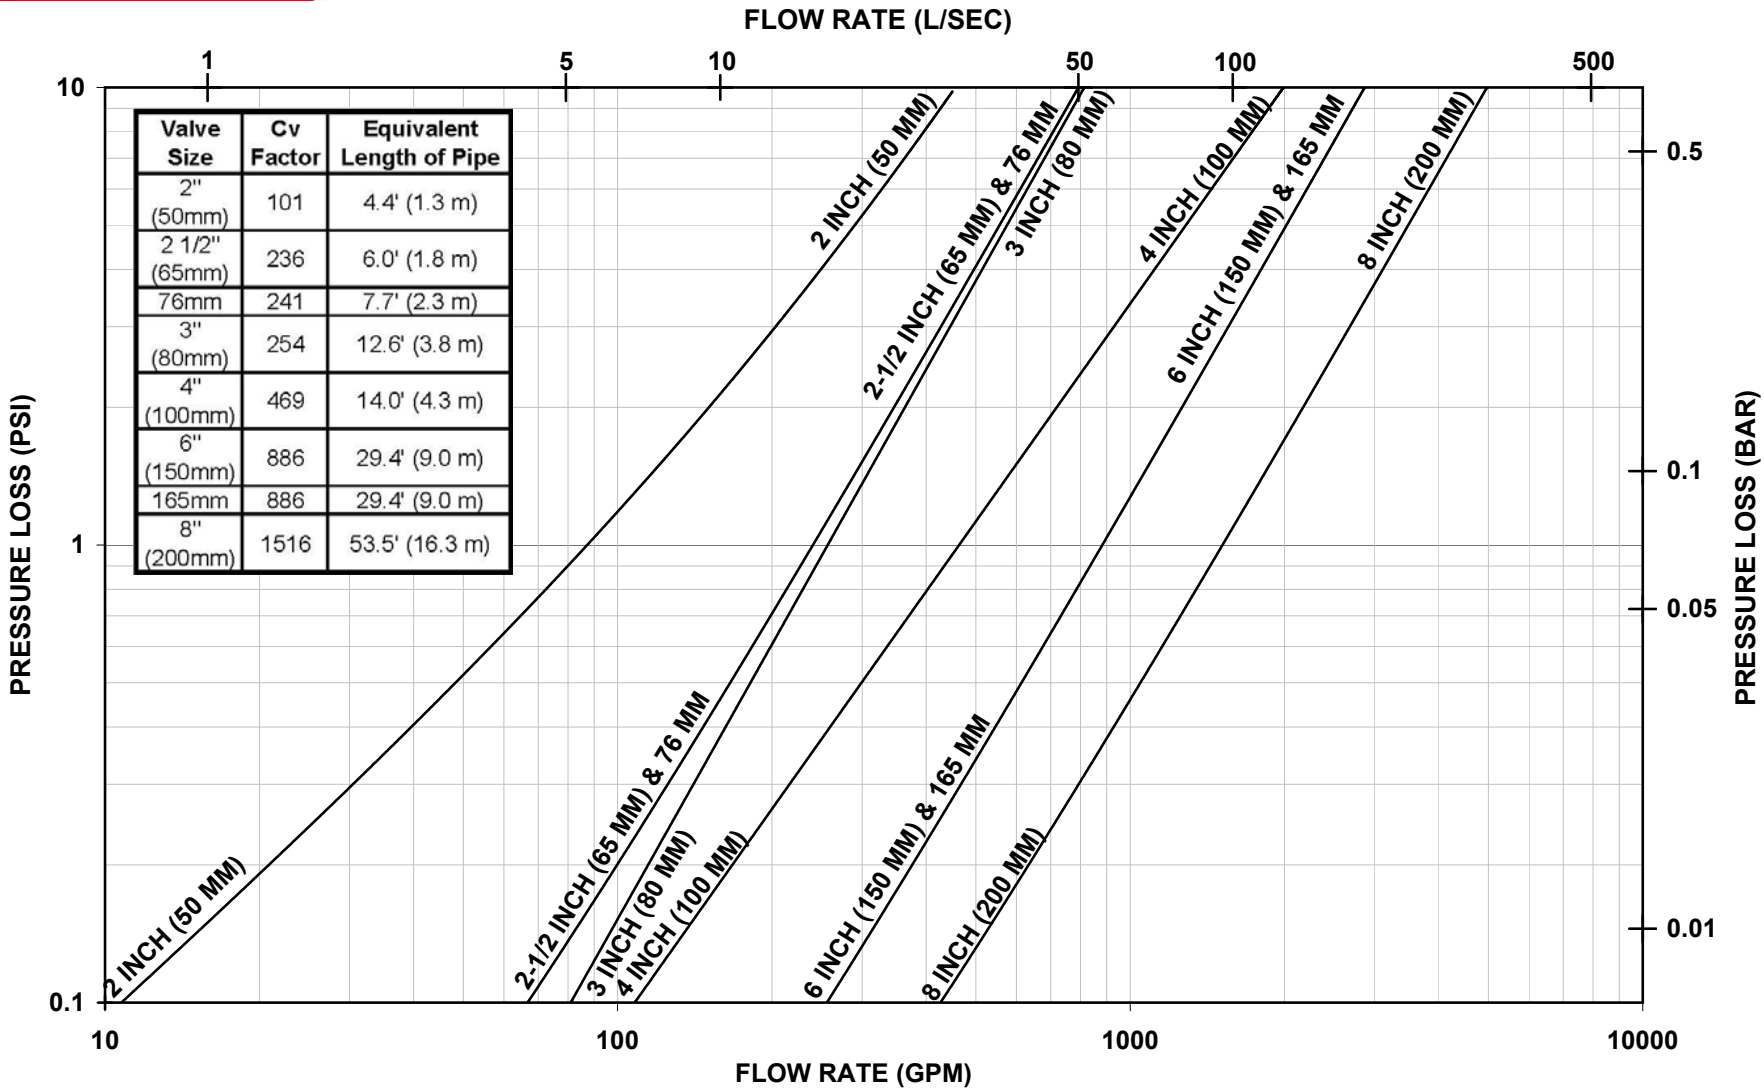

Fig. 3
- Friction loss (Expressed in equivalent length of Schedule 40 pipe, based on Hazen & Williams formula: Reference Figure 3.